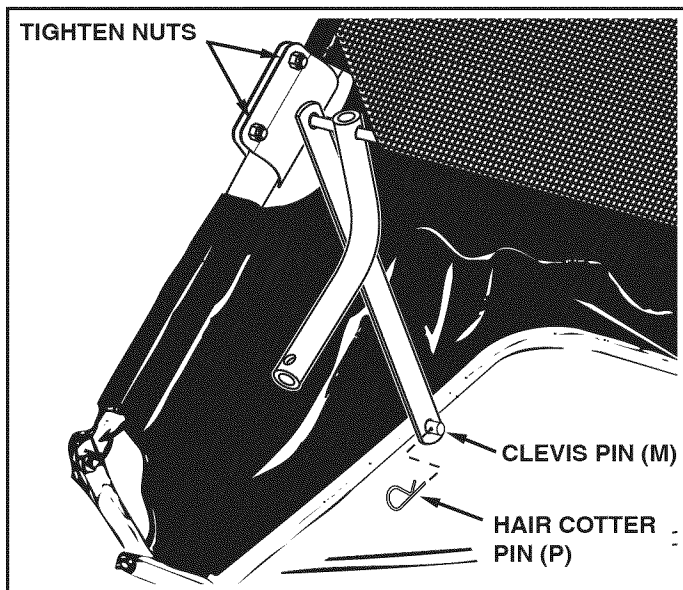

FIGURE 15
- Attach the bottoms of the hopper support straps to the clevis pins (M) in the lower hopper tubes, securing the straps with the previously assembled hair cotter pins (P). See figure 15.
- Tighten the nuts on the hopper mount clamps. See figure 15.